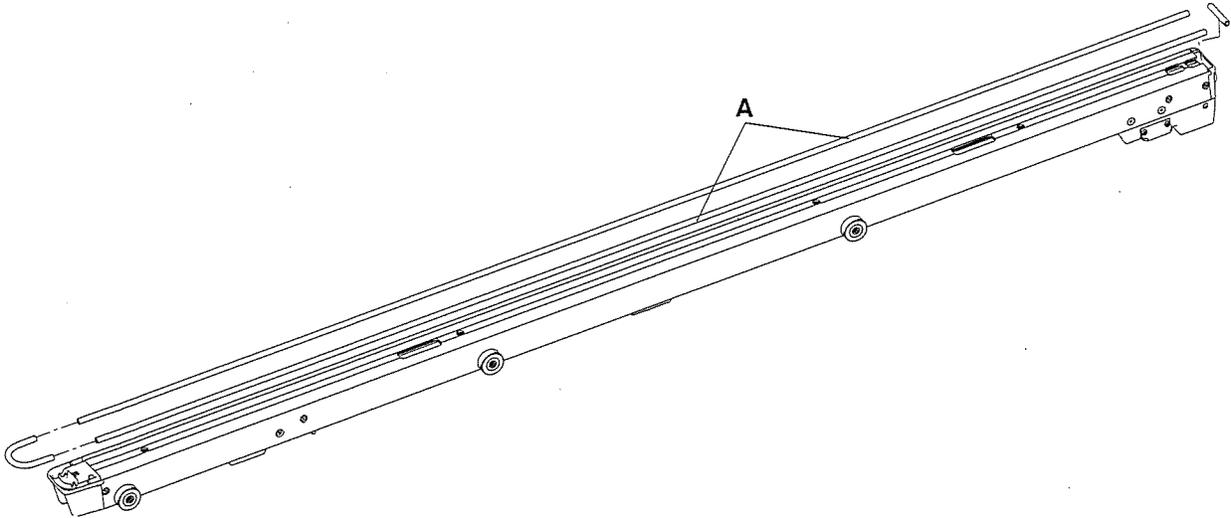

Figure 8: Anchor seals
11. Make sure that the anchor seals are installed into the grooves of the anchor assembly (Figure 8 on page 19). If the anchor seals are not installed, push them back into the grooves of the anchor assembly.